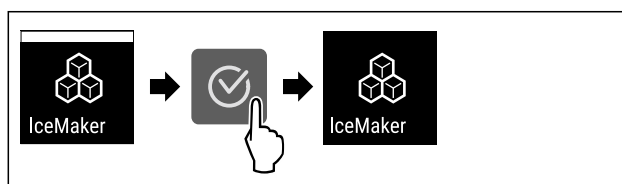

Fig. 18
- ▶ Complete the steps (see Fig. 18) .